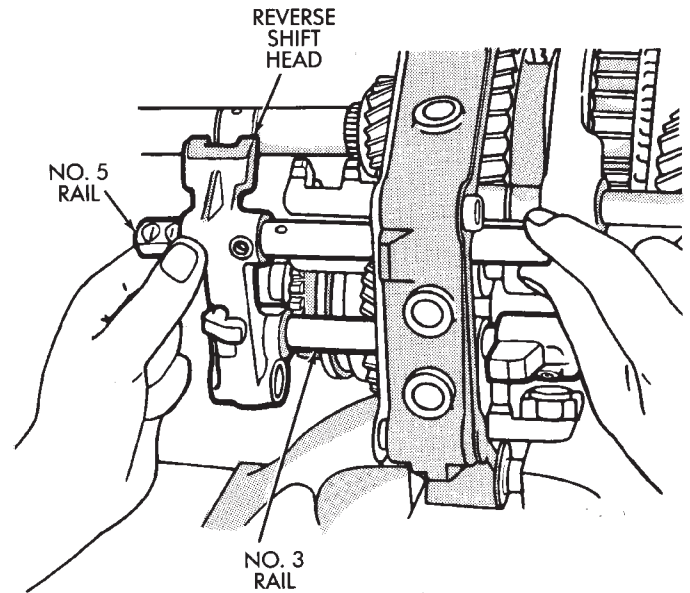

Fig. 77 Installing Reverse Shift Head
(12) Assemble reverse shift head and No. 5 shift rail.
(13) Install No. 5 shift rail in intermediate plate and engage shift head on No. 3 shift rail (Fig. 77).